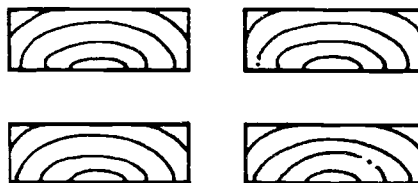

Fig. 1
**Show by annotated sketches** the correct arrangement of the grain when jointing the narrow boards shown in Fig. 1 when making a **table top**.
- **Describe the setting-out** procedure for the simple frame shown in Fig. 1.
- **Determine the size** of the plywood panels for the door shown in Fig. 1. The depth of the plough groove for the panel is 10mm. **Show all the necessary working out.**